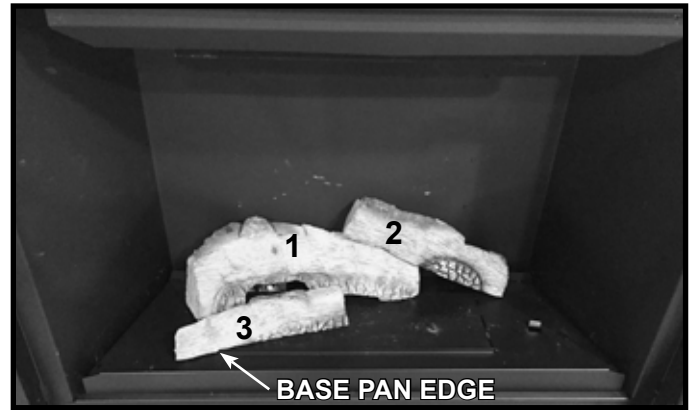

Figure 6. Install Left Front Base Log
4. Locate and install the left front base log (3) by installing the “right” end over the left burner pin and pressing “down” to engage log pin. The “left” side of this log will be positioned by the front left hand bend tab. The face of the log should contact the base pan edge. See Figure 6.